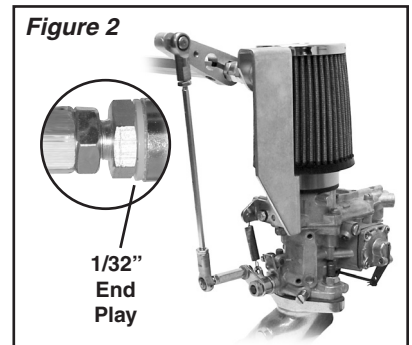
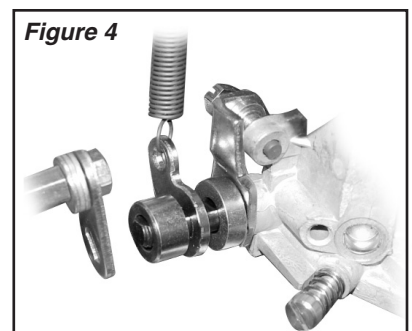

Figure 2
Figure 4
1. Install the throttle levers and spacers onto carburetors (See Figures 2, 3 & 4). Prior to installing throttle lever, inspect throttle shaft spacers on carburetor. The thicker spacer must be between the throttle return spring arm and the newly installed throttle lever. If thicker spacer is not towards the outside position, swap it with the narrower spacer. This will provide ample clearance for the nylock nut that holds the throttle lever spacer on (See Figure 4). Install long linkage spacer on left carburetor and short linkage spacer on right carburetor. **(DO NOT OVER TIGHTEN NUTS, 4-5 FT/LBS MAXIMUM)**. Bend lock tab against nut to hold nut tight.
6. Adjust the hex bar ball-ends to achieve a 1/32" clearance between the bushing flange and ball flange. Once the ball-ends are adjusted correctly, lock the jam nuts in place (See Figure 2).
7. Install the carburetor linkage rods to each of the extension arms on the hex bar and to the spacers on carburetor throttle levers (See Figures 2 & 3). **NOTE: LINKAGE RODS, ROD ENDS & JAM NUTS ARE LEFT HAND & RIGHT HAND THREAD TO FACILITATE EASE OF CARBURETOR LINKAGE ADJUSTMENT. GOLD NUTS & ROD ENDS WITH GROOVE ARE LEFT HAND THREAD.** At this time tighten rod ends fully at carburetor spacers, set linkage rod length to center of adjustment with jam nuts loose, and fully tighten rod ends at hex bar extension arms. Location of hex bar arms should be positioned so down rods are "centered" vertically. Extension arms (on hex bar) should be fully tightened at this time. **CAUTION: BE SURE CENTER PULL LEVER IS POSITIONED FOR CORRECT THROTTLE CABLE HOOK-UP, AT IDLE AND FULL THROTTLE POSITIONS.** Install carburetor return springs in holes on carburetor arms and linkage mounts. **CHECK THROTTLE OPERATION FOR FREE MOVEMENT. IF THERE IS ANY INDICATIONS OF STICKING OR BINDING, CORRECT AS NECESSARY BEFORE PROCEEDING.**